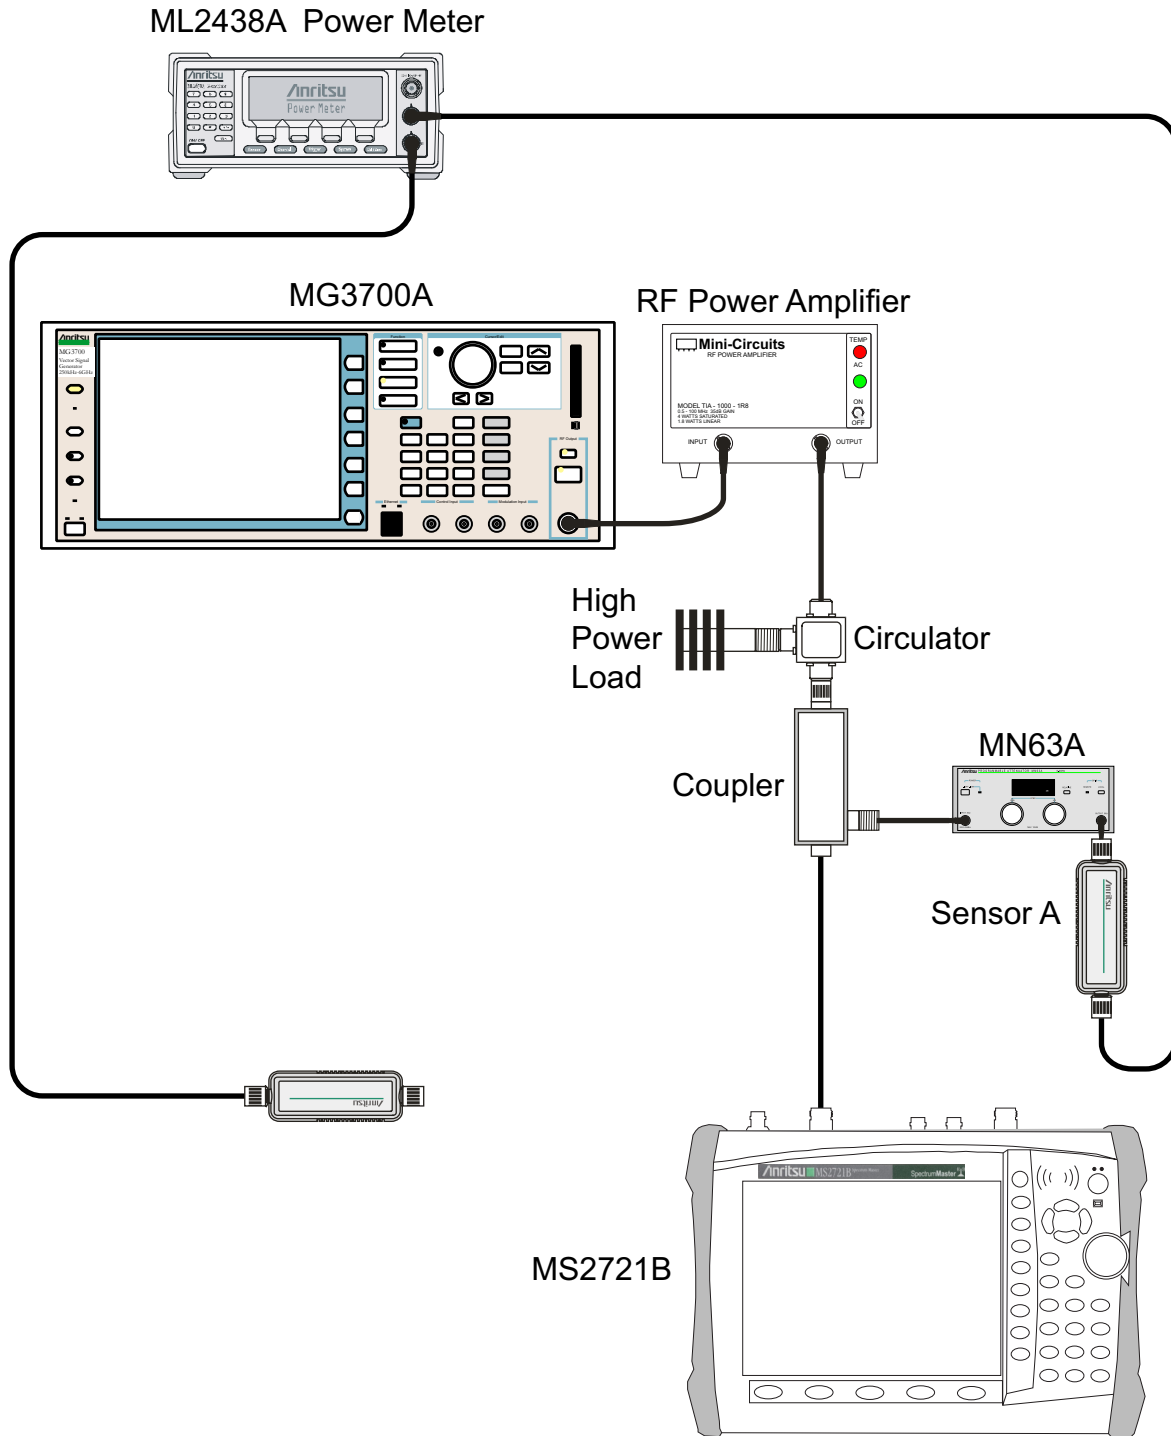

Figure 3-15. WCDMA/HSDPA Signal Analyzer Test Setup
33. Disconnect the coupler from Sensor B, and connect the coupler to the RF In port on the MS2721B, referring to Figure 3-15.